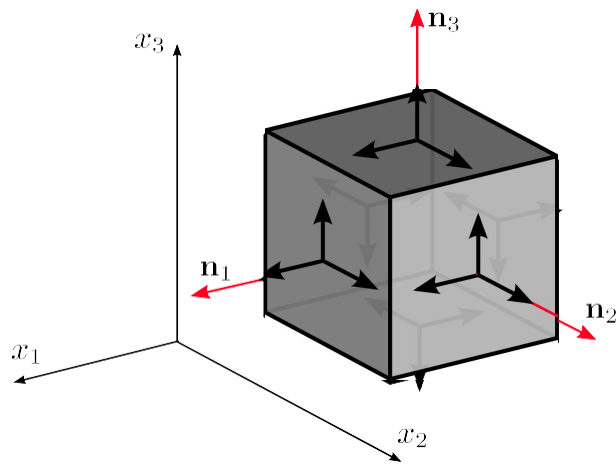

Figure 1: Components of  $\boldsymbol{\sigma}$  that completely define the state of stress at a point inside a material.
- Figure 1 depicts an infinitesimally small cube (cut from the membrane) with arrows representing the nine Cauchy stress tensor components. Assign the individual components  $\sigma_{ij}$  to the arrows. Note that the first index  $i$  refers to the normal direction  $\mathbf{n}_i$  of the surface and the second index  $j$  to the effective direction of the stress. Which of these components are referred to as *normal stresses* and which as *shear stresses*?